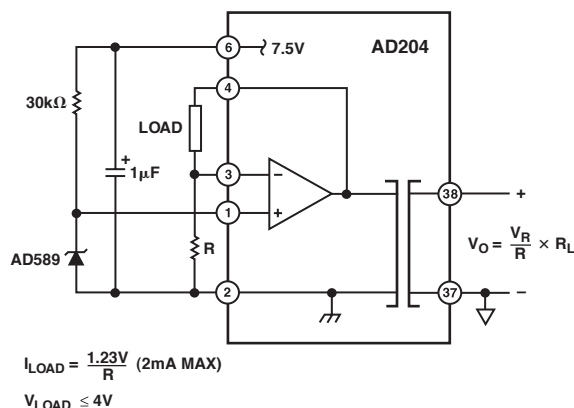

Figure 21. Floating Current Source
**Floating Current Source/Ohmmeter.** When a small floating current is needed with a compliance range of up to  $\pm 1000$  V dc, the AD204 can be used to both create and regulate the current. This can save considerable power, since the controlled current does not have to return to ground. In Figure 21, an AD589 reference is used to force a small fixed voltage across  $R$ . That sets the current that the input op amp will have to return through the load to zero its input. Note that the isolator's output isn't needed at all in this application; the whole job is done by the input section. However, the signal at the output could be useful as it's the voltage across the load, referenced to ground. Since the load current is known, the output voltage is proportional to load resistance.